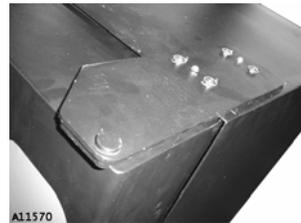

Figure 4b. Top Hinge Plate
3. **Remove the door** - While holding the door in place to prevent bending or damage to the bottom pivot, remove the two (2) small locating screws and four (4) large bolts and nuts holding the Top Hinge Plate to the cabinet. See Figure 4b. Save the mounting hardware for step 7. Lift the door up to remove it from the bottom hinge.
7. **Reattach the door** - Attach the bottom end of the door to the Door Hinge. Hold the door in place while attaching the Top Hinge Plate to the cabinet using the hardware fasteners saved from step 3 (Figure 4b). First, install the two (2) small screws to locate the Top Hinge Plate to the correct location and then add the four bolts and nuts.